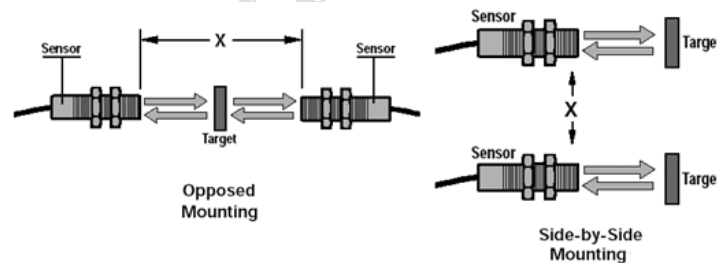

Fig.33 Mutual interference in ultrasonic sensors.
9. Mutual interference: Sound waves produced by ultrasonic units mounted in close proximity to one another can cause unwanted sensor crosstalk. Fig.33 illustrates the recommended separation distances for multiple sensor installations: